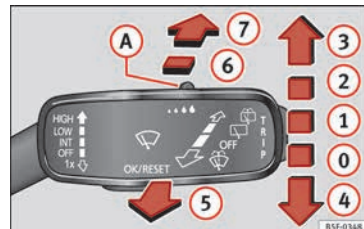

Fig. 140 Window wiper lever.
- Give the windscreen a **brief** wipe by moving the lever down to position ④ » Fig. 140.
- Push the lever up to position ① » Fig. 140.
»» Fig. 140.
- Pull the lever towards the steering wheel, position ⑤ »» Fig. 140, and the windscreen washer and wipers are switched on.
»» Fig. 140 and the rear window wiper will run every 6 seconds.
»» Fig. 140 and the rear window wiper and washer switch on at the same time.
- Move the lever to position ① »» Fig. 140.
The headlight washers operate briefly if the dipped headlights or headlights are on and the lever is moved to position ⑤ »» Fig. 140. The headlight washer system also operates every 10 windscreen wash cycles.